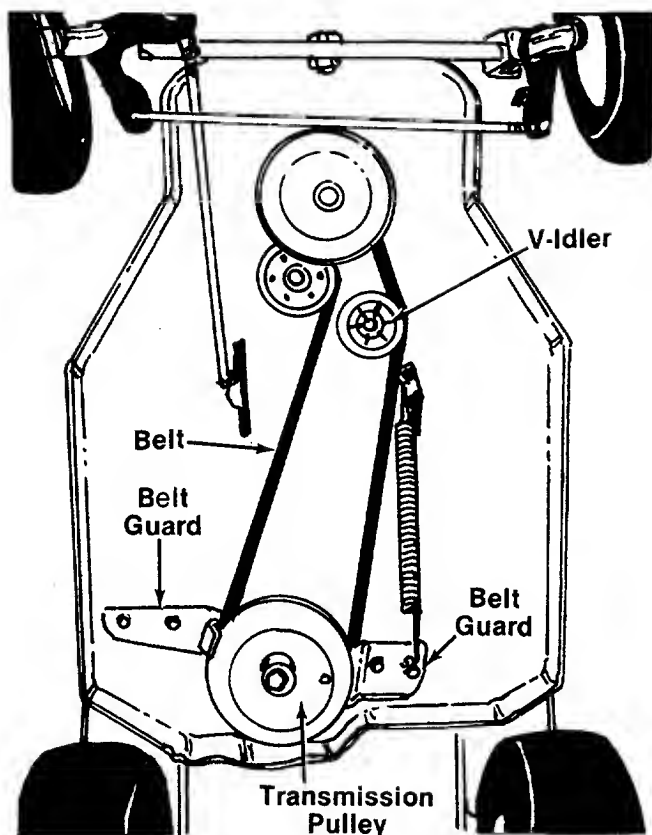

FIGURE 20.
3. Remove the two belt guards from the transmission pulley. See figure 20.
4. Remove the V-idler pulley. See figure 20.